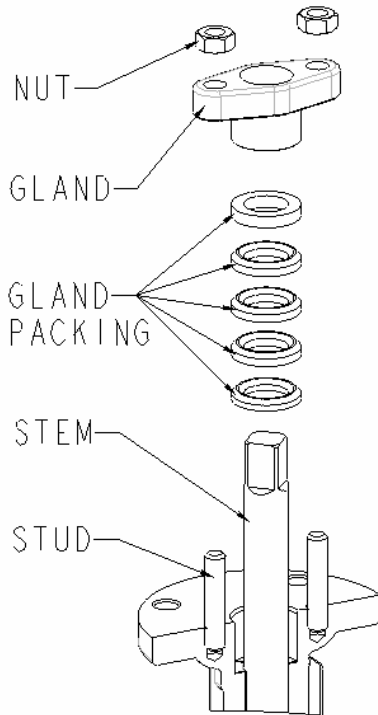

Fig.11
11.2 Remove all of the packing in the stuffing box using a flexible screw hook. For stuffing boxes that contain a lantern ring, use a puller with 10-32 threads to remove the lantern ring. Save the lantern ring for reuse, but discard the other packing material. Please replace all the gland packing no matter the gland packing is made of PTFE. (Fig.11)